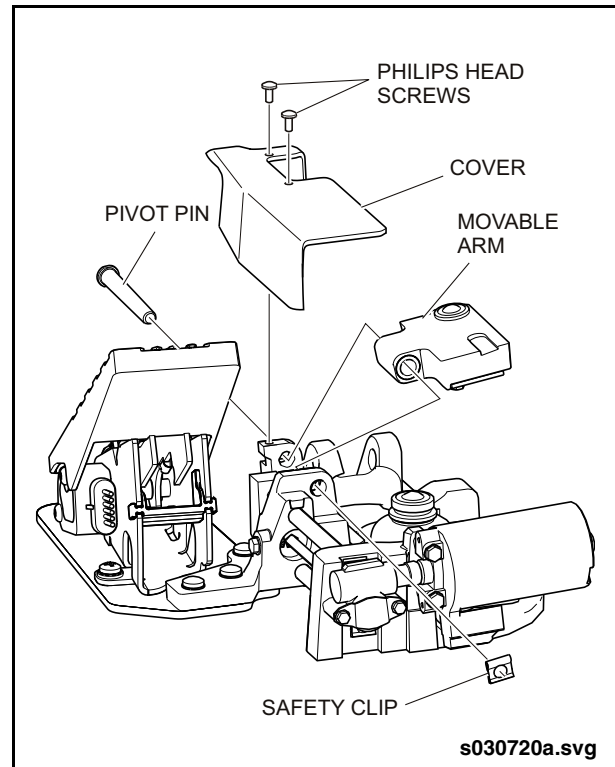

Fig. 2: Moveable Arm Removal
2. Remove the cover by removing the two Philips head screws. See “Fig. 2: Moveable Arm Removal” on page 4.
2. Install a new safety clip to the moveable arm pivot pin. See “Fig. 2: Moveable Arm Removal” on page 4.